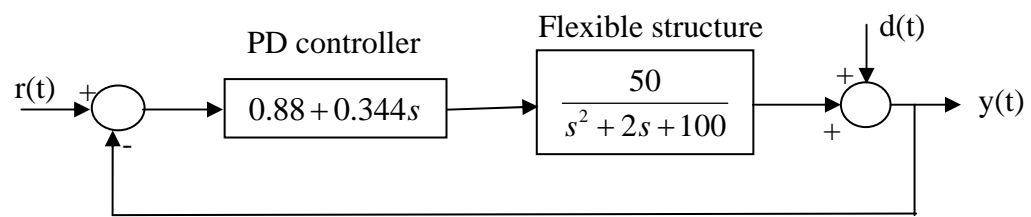

Figure 7.1
7.4 A control system for a flexible structure is shown in Figure 7.1 where $d(t)$ is an output disturbance due to an external vibration source. Evaluate the effect of the disturbance on the output if the disturbance is of frequency 1 rad/s and 100 rad/s, respectively.